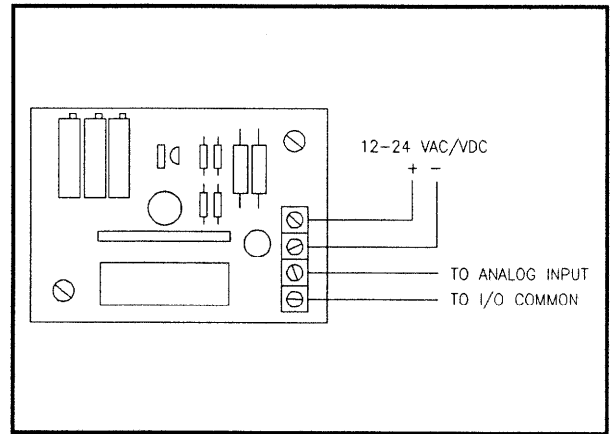

Fig. 3: Terminal Designations
3. Connect the cable coming from the controller to the appropriate sensor terminals. Figure 3 shows the terminal designations of the 3293D. The analog output terminal of the sensor is connected to the desired analog input of the controller.